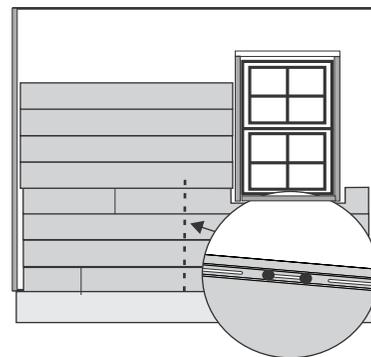

Fig. 6
- If the course is longer than 12' pin the center of the course (not each panel) by placing a fastener in each side of one slot keeping in mind that the "center" of each course will change as you work around windows, doors, etc. (Fig. 6).